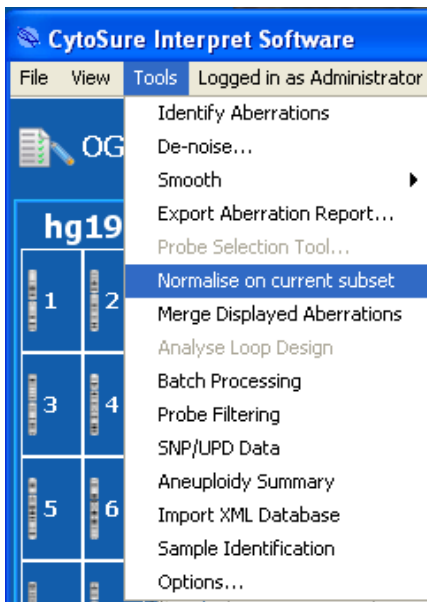

Figure 6: Data normalisation in CytoSure Interpret Software
3. Click “Tools”, followed by “Normalise on current subset” (Figure 6). The software will recalculate the normalised probe values.